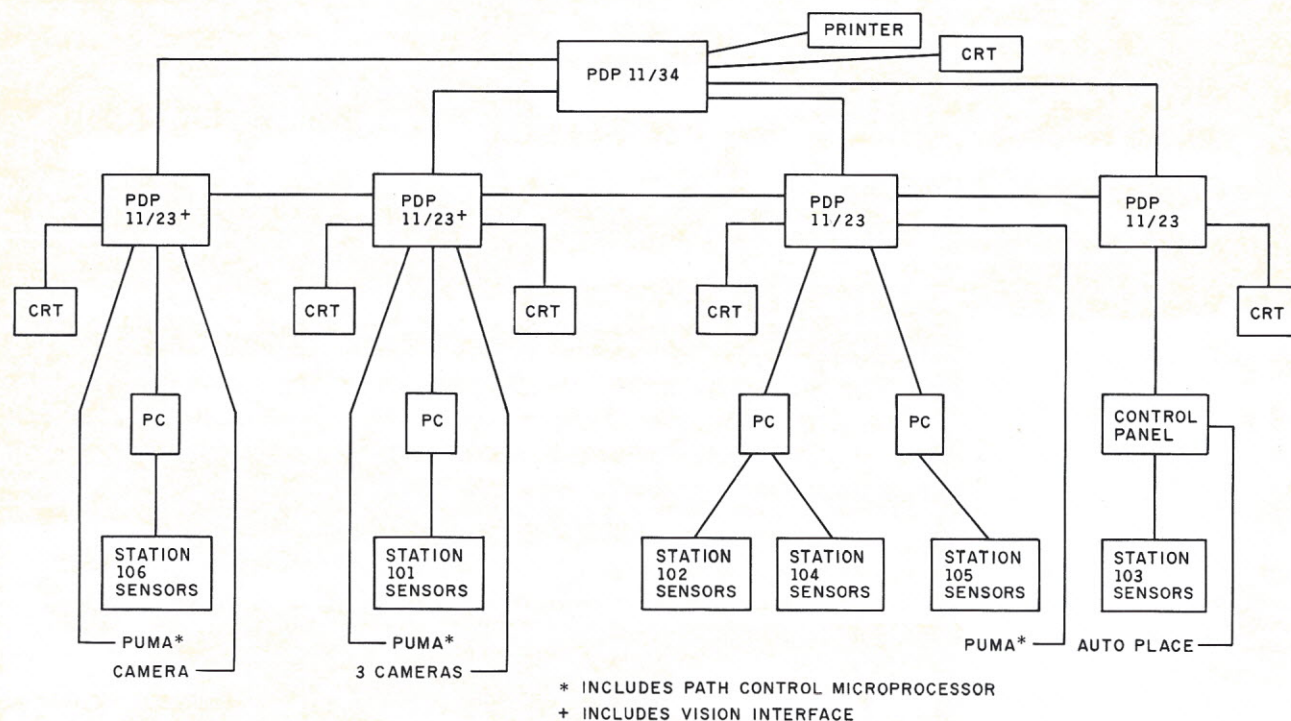

Figure 1. The APAS computer, sensor, and control arrangement.
**Computer Organization.** Figure 1 shows the computer organization of APAS. It is a hierarchical, distributed control system. Each station has its own local control computer, a PDP-11/23 running under the RSX-11S operation system, with the exception of one PDP-11/23, which supports the vision system and communicates with the Pumas at stations 101 and 106. That computer runs under the more sophisticated RSX-11M operating system and can serve as a backup to the system master computer, a more powerful PDP-11/34 also running under RSX-11M.